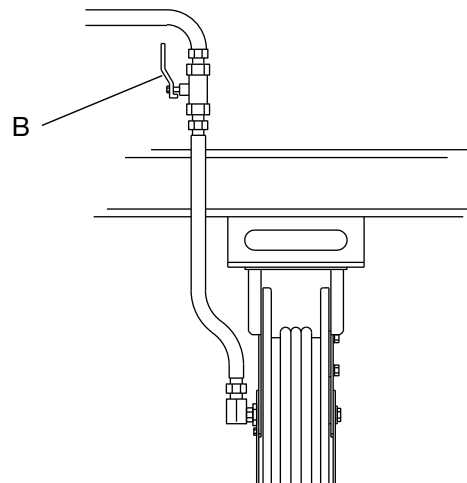

FIG. 7
4. Open all of the dispense position shut off valves (B) and start the pump to pressurize the system. See **LDP5 Meter Operation**, page 16 for proper operation of the meter (FIG. 7).